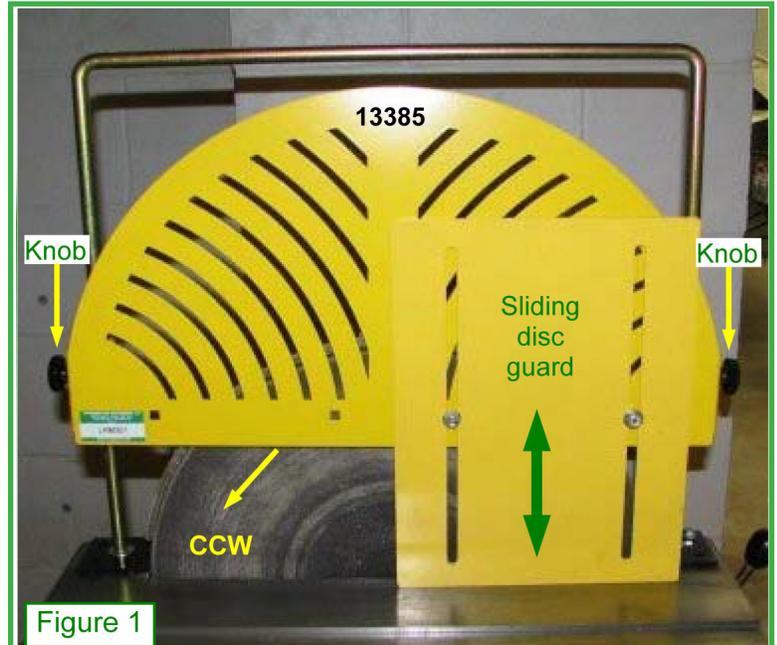

Figure 1
2. Locate the **13385** Upper Disc Guard Assembly on the sander. Raise guard about 6" above base plates and tighten both adjustment knobs as in Fig. 1.
10. Adjust the **13385** as shown in Figure 1. Raise guard, tighten the knobs, and expose only that part of disc necessary to perform work.